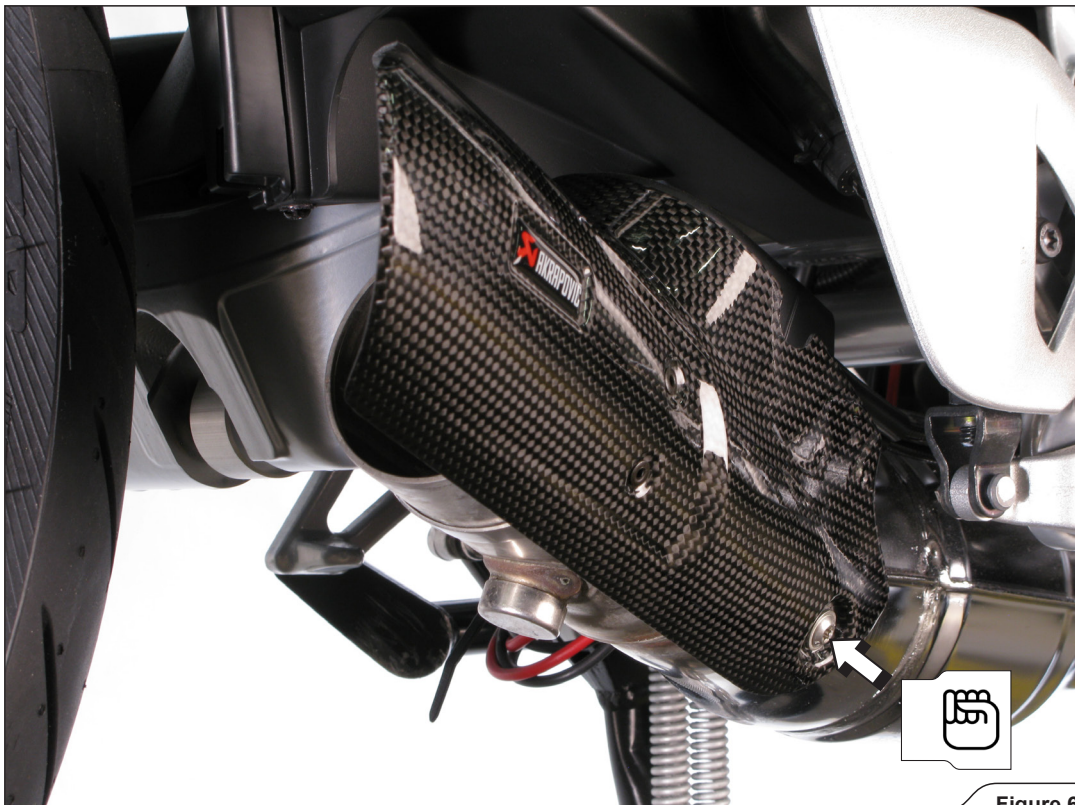

Figure 6
3. Slide the heat shield onto the stock collector and **hand** tighten the clamp and marked bolt (**Figure 6**).